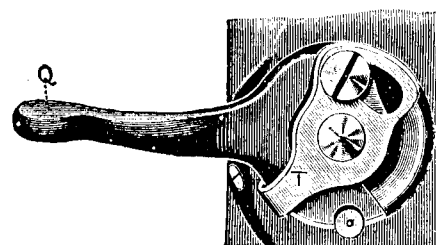

Fig. 9
After changing to reverse stitches, the downward movement of handle (Q, see Fig. 9) may be limited by setting stop (T) so as to assure a return of the feed to the former length of stitch, after sewing in the reverse direction.